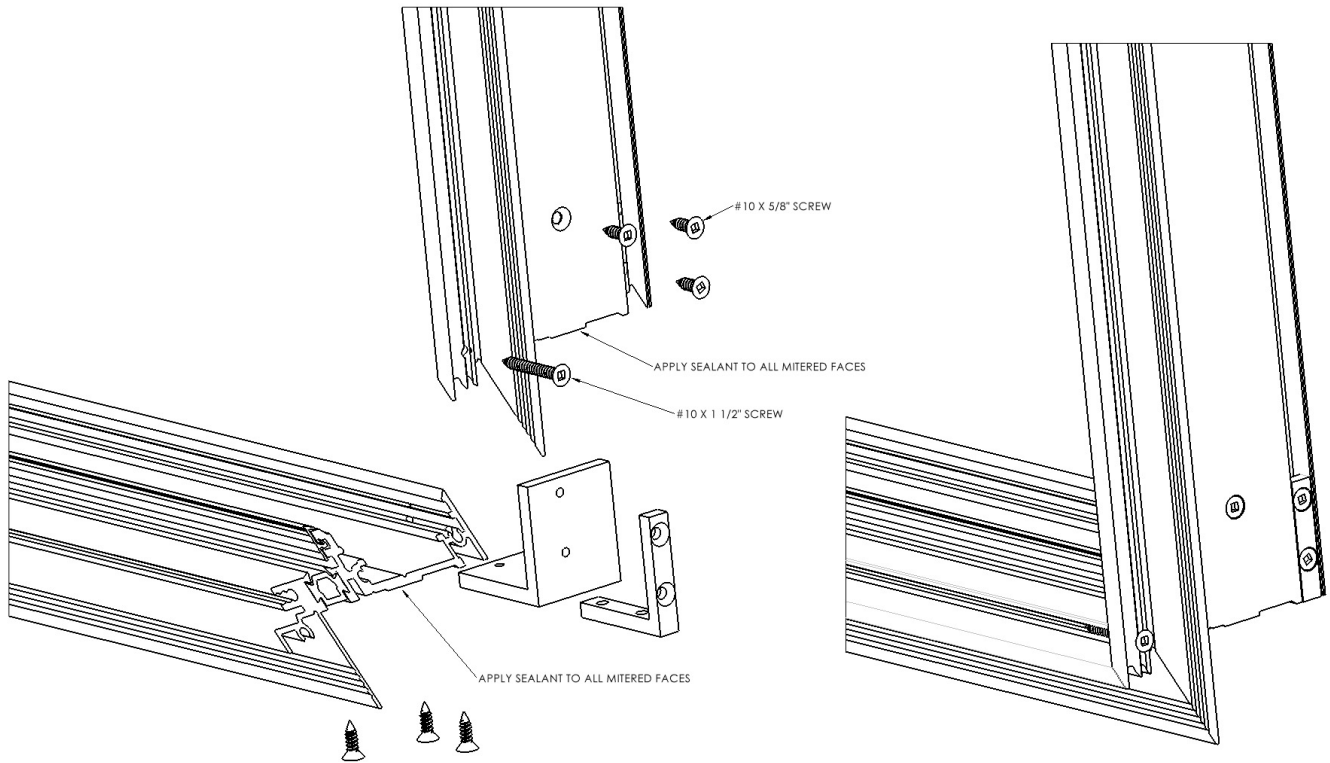

Figure 15 \*\*\*
- Assemble the corners of the perimeter frame using the two keys and #10 x 5/8" screws. Apply a generous coat of Dow 795 sealant or equivalent to each mitred face. For perimeter frames with a nail fin, an additional screw will be used on the outer corner. (See Figure 15)